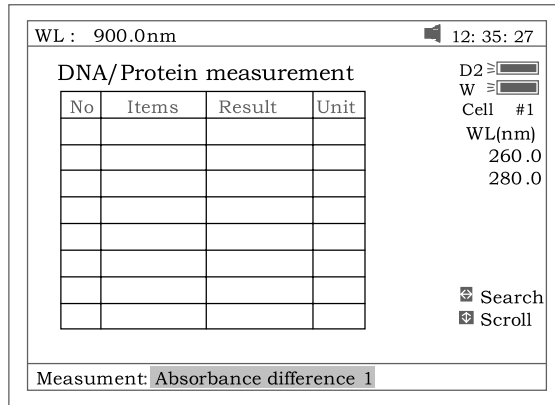
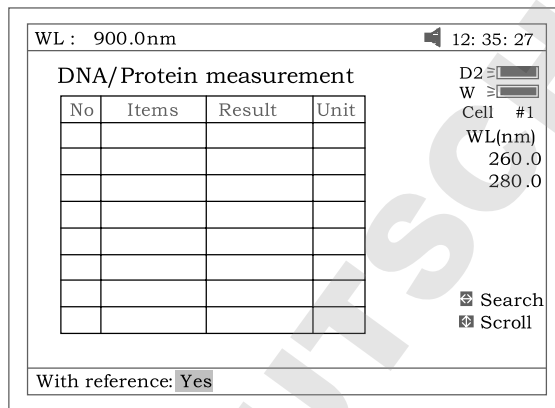

Fig 61
Fig 62
1. To use a simpler or different algorithm, you can enter your own values for f1-f4. Press **【F1】** to set f1-f4. Input the value by pressing the numeric keypad (Fig 61).
2. Press **【F2】** to select test mode. "Absorbance difference 1" is for testing at the wavelength 260nm,280nm and 320nm (optional),and the "Absorbance difference 2" is for testing at the wavelength 260nm,280nm and 320nm (Optional, Fig 61). Then select with/without reference. If selected with reference (no), the A ref. will be "0" (Fig 62).